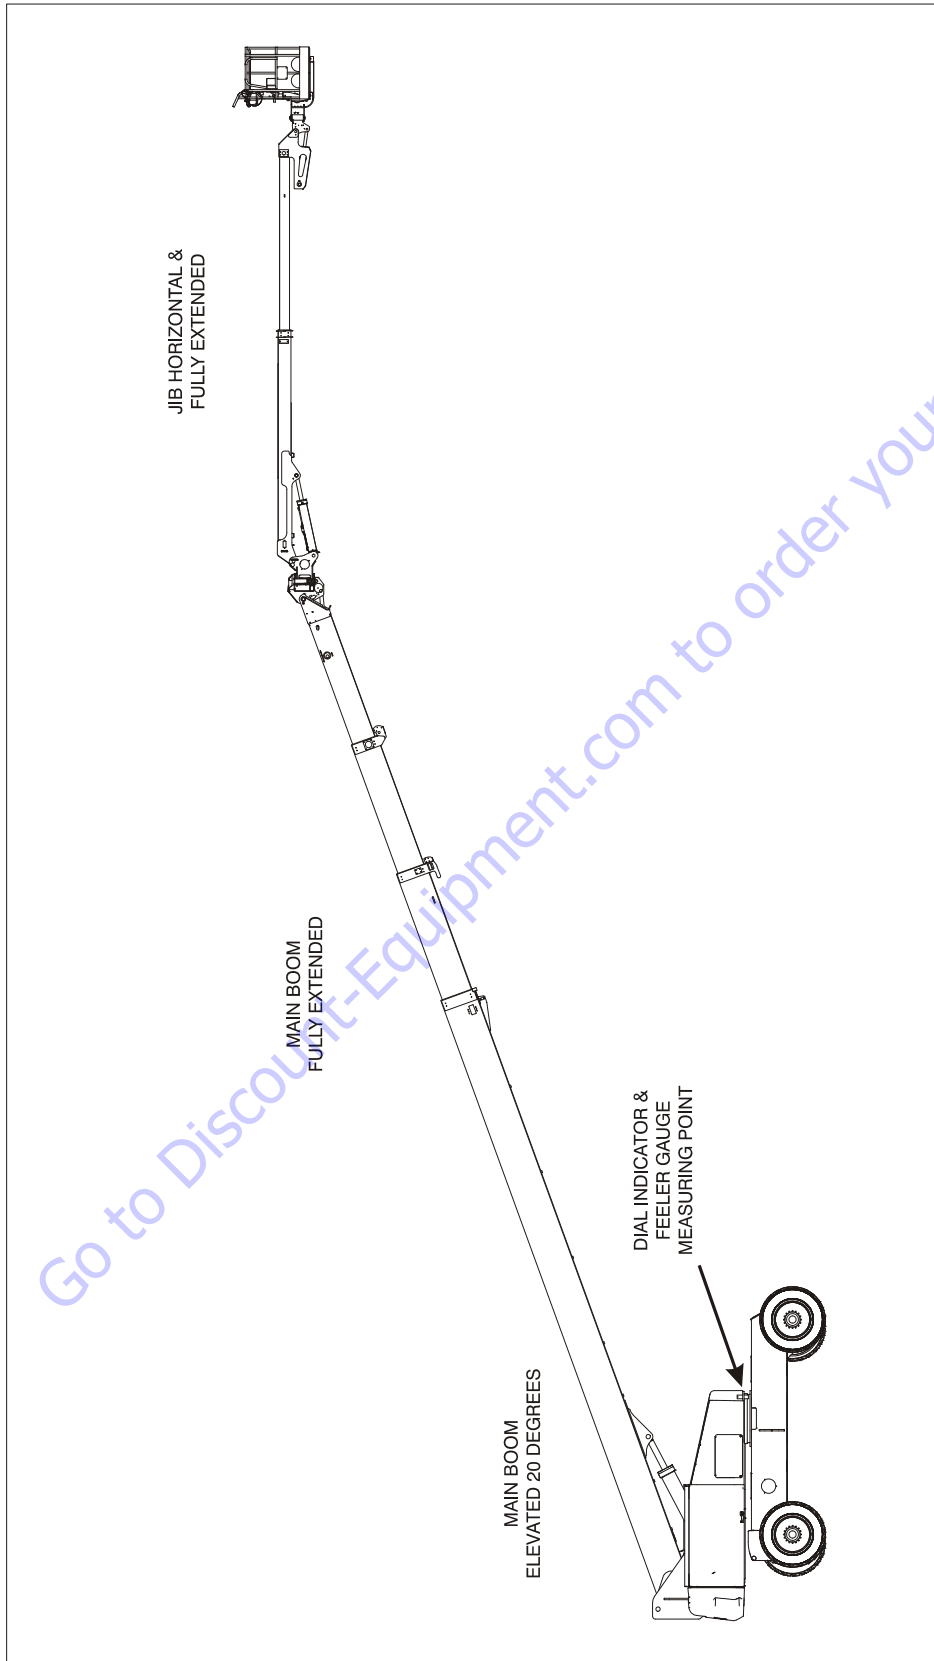

Figure 3-57. Swing Bearing Tolerance Boom Placement - Sheet 2 of 2
- d. At the position indicated on Figure 3-57., try and insert the 0.0015" feeler gauge between the bolt head and hardened washer at the arrow indicated position.
2. Next, position the main boom fully extended and horizontal as shown in Figure 3-57., Swing Bearing Tolerance Boom Placement - Sheet 2 of 2. Read the measurement recorded on the dial indicator gauge.